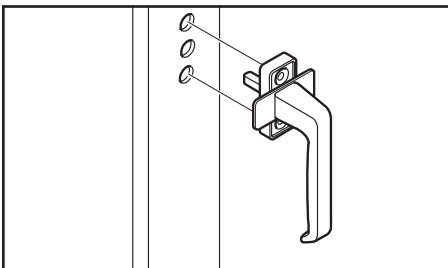

Figure 2-6. Euro-Handle in the horizontal position
- 1.5. Turn (Open) position: rotate the Euro-Handle to the horizontal position, with the handle pointing toward the hinge side of the sash. Install the Euro-Handle on the sash: insert the shaft into the center hole. See fig. 2-6. Note; If you are installing a Tilt before Turn product install the Euro-Handle on the sash in the vertical Turn (Open) position, with the handle pointing up. Insert the shaft into the center hole and then turn the handle to the horizontal position.